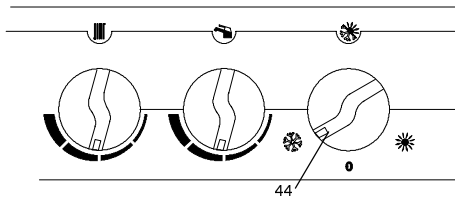
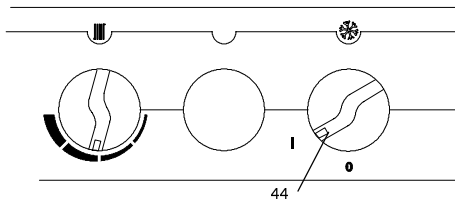

fig. 4.11
fig. 4.12
- 2 Make sure that the function switch (44) is set to the position in fig. 4.11 or fig. 4.12 and that the room thermostat, if fitted, is set to "heat demand".